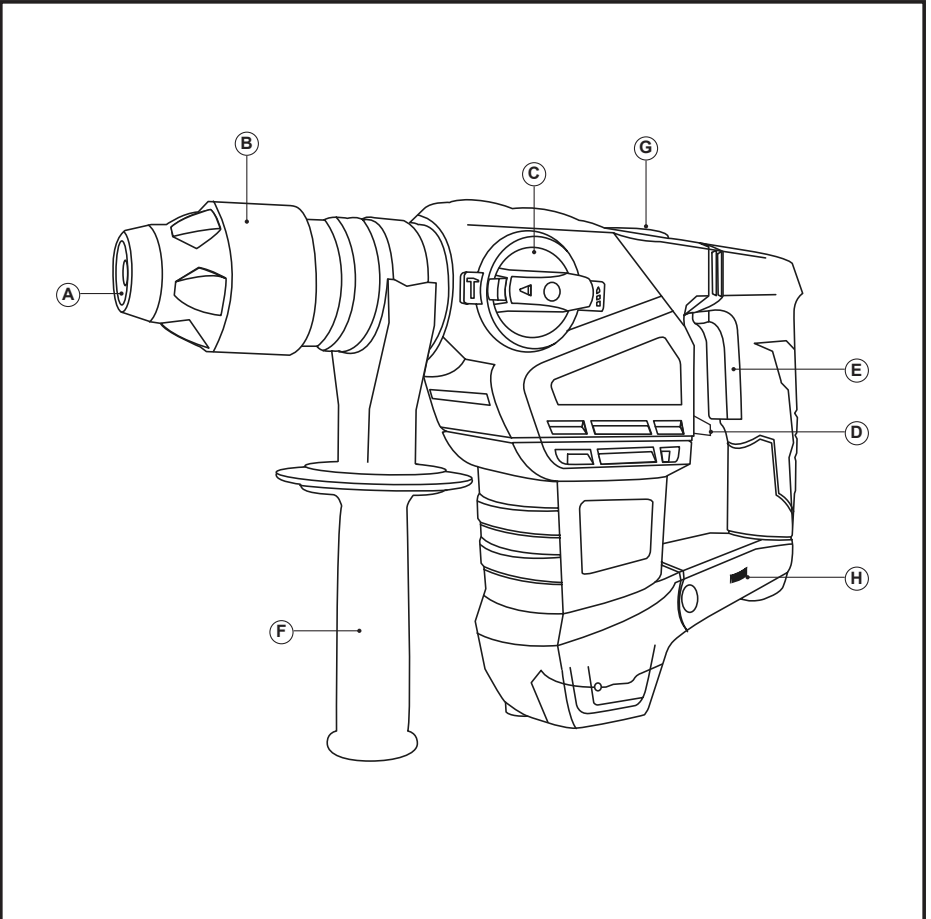

Fig. 1 - 2
- Auxiliary Operation (Fig. 1).
- Turn the auxiliary handle (F) in clockwise.
- Tighten the auxiliary handle (F) in counter clockwise direction.
- Fitting the working tools: (Figs. 1, 2).
- Insert the tool by moving the sliding ring (B) back. Now the SDS-plus chuck is open.
- Release the sliding ring (B). Now the tool is locked.
- Slide the dust collector (I) onto the shaft of the bit and mount the bit as described above "Fitting the working tools".
- Electronic speed control (Fig. 1).
- The speed of the appliance can be regulated by using the speed regulator control (H). This function is very useful, as it makes it possible to adapt the speed of the appliance to the type of work that needs to be done.